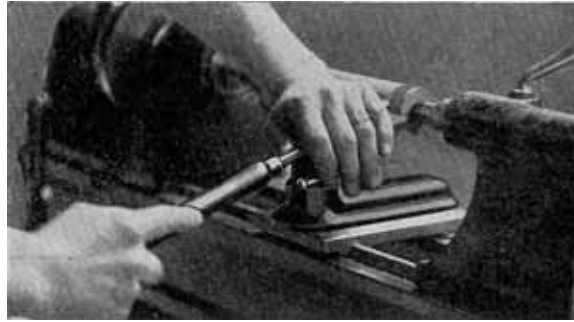

Fig. 8.
6. SQUARING ENDS (SMALL SKEW AND PARTING TOOL). FIG. 8. This operation is done with the toe or acute angle of the $\frac{1}{2}$ " or $\frac{1}{4}$ " skew chisel.